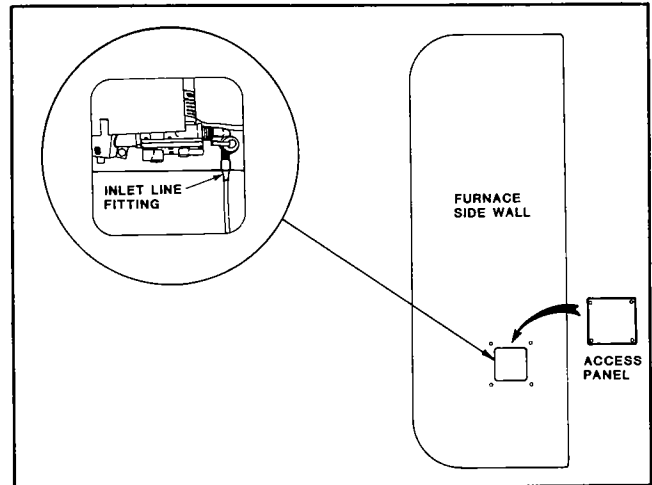

Figure 5. Furnace Access Hole and Inlet Fitting
enclosure side wall (figure 5). Be careful not to cut into furnace. Remove burrs in fiberglass edge with a file.
12. Separate LP line from furnace at line inlet fitting. Pull line up through floor and discard line and grommet. (See figure 5.)
28. Measure and mark one inch out from each side of furnace access hole (figure 5). Use these marks to position access panel. Using the panel as a template, drill four ¼-inch mounting holes. Push nylon inserts into holes and screw access panel onto wall.